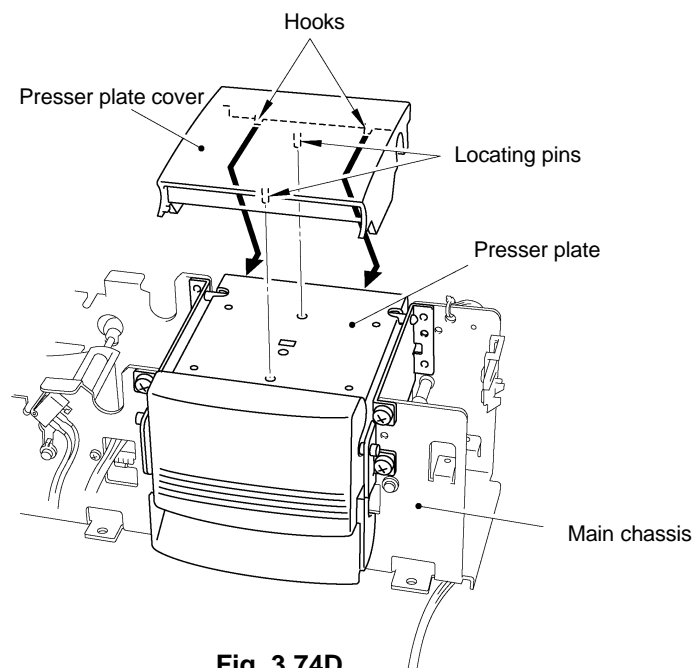

Fig. 3.74D
(11) Remove the presser jig assy (part of the presser base assy) and adjustment jig.
(12) Attach the presser plate cover to the presser plate, as shown in Fig. 3.74D.